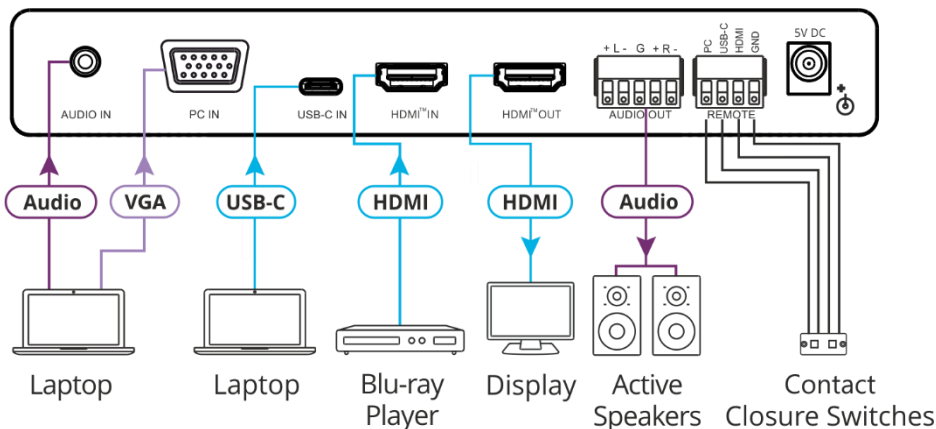

Figure 5: Connecting to the VP-426C Rear Panel
To connect the **VP-426C** as illustrated in the example in Figure 5:
- The unbalanced stereo audio PC source to the AUDIO IN 3.5mm mini jack (11).
- The VGA signal to the PC 15-pin HD connector (12).
2. Connect a USB-C source (for example, a laptop) to the USB-C port (13).
3. Connect an HDMI source (for example, a Blu-ray player) to the HDMI IN connector (14).
4. Connect the HDMI OUT connector (15) to an acceptor (for example, a display).
5. Connect the AUDIO OUT 5-pin terminal block connector (16) to a balanced stereo audio acceptor (for example, Kramer **TAVOR 6-O** active speakers).
6. Connect the REMOTE 4-pin terminal block connector (17) to contact closure switches (for example, Kramer **RC-22TB**).
7. Connect the power adapter to the **VP-426C** power connector (18) and to the mains electricity (not shown in Figure 5).
To connect the VP-424C as illustrated in the example in Figure 5:
1. Connect a USB-C source (for example, a laptop) to the USB-C port (13).
2. Connect an HDMI source (for example, a Blu-ray player) to the HDMI IN connector (14).
3. Connect the HDMI OUT connector (15) to an acceptor (for example, a display).
4. Connect the REMOTE 4-pin terminal block connector (17) to contact closure switches (for example, Kramer RC-22TB).
5. Connect the power adapter to the VP-424C power connector (18) and to the mains electricity (not shown in Figure 5).